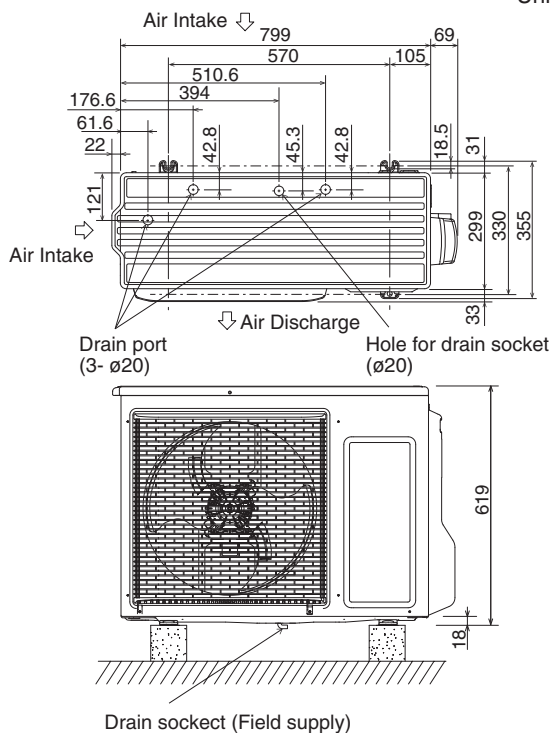

Fig. 1-11-1-1
- See Fig. 1-11-1-1 for the anchor bolt dimensions.
- See Fig. 1-11-1-1.